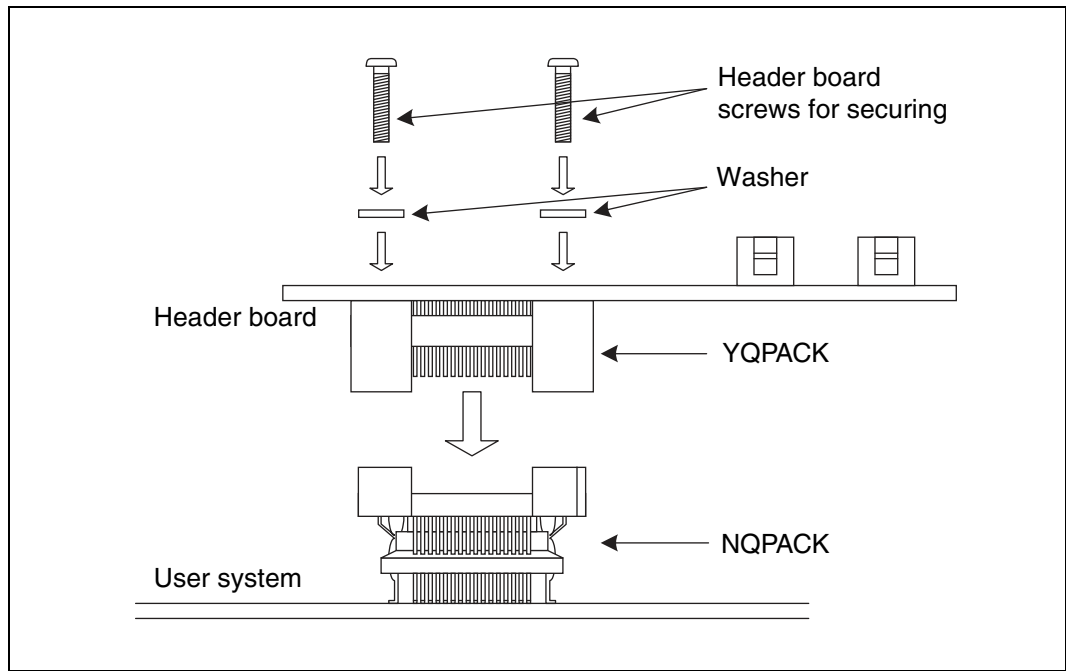

Figure 4 Header board connection
2. Insert each screw for securing header board in each of the four drilled holes on the header board through a washer, and then first tighten the screws in opposing corners followed by the two remaining screws (see Figure 4). To tighten the screws, use the screwdriver supplied with the NQPACK to finally tighten the four screws in sequence. Tightening the screws too tight might result in a defective contact.